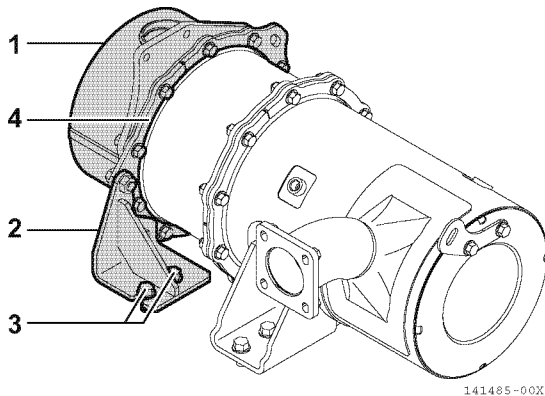

Figure 13-9
- Remove the silencer (or outlet flange) (1, **Figure 13-9**) side DPF stay (2, **Figure 13-9**) and the M10 bolts (2 pcs.) (3, **Figure 13-9**) that affix the flywheel housing. Leave the stiffener (4, **Figure 13-9**) attached to the DPF stay.